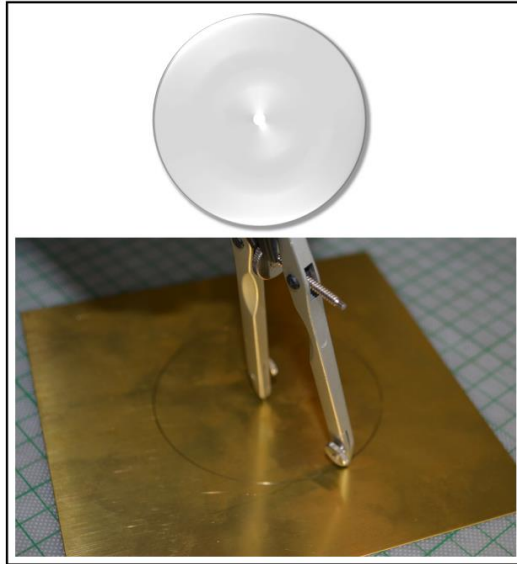

Figure 20
- We draw a circle on the aluminum sheet that has diameter about 0.5-1.0 cm smaller than the diameter of the bottle. After that we cut the aluminum circle using a pair of scissors (see Fig. 20).